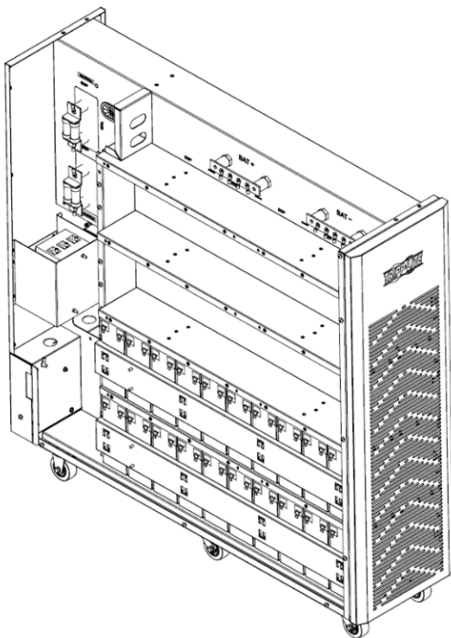

Figure 5-9A
10. Reinstall the right side and left side bracket bars of group 2 batteries (Figures 5-9A and 5-9B).